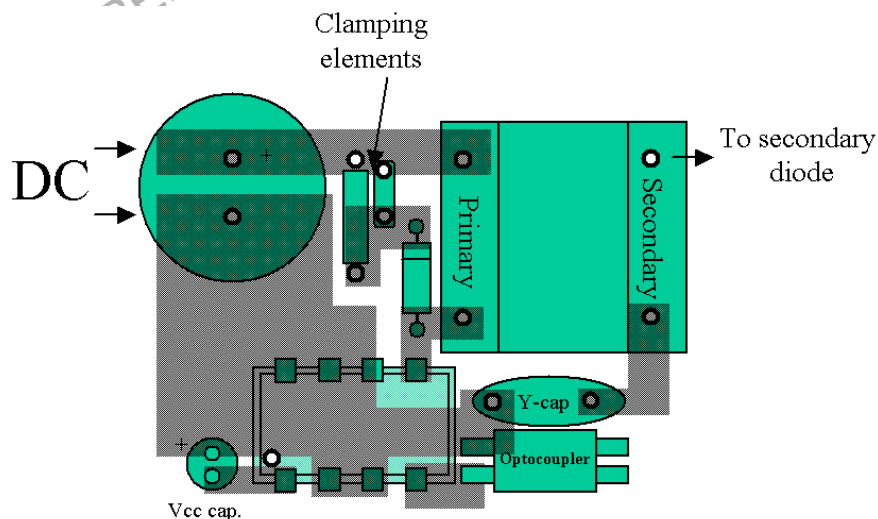

Figure 27. A Possible PCB Arrangement to Reduce the Thermal Resistance Junction-to-Ambient
1.0 W for an ambient of 50°C. The losses inherent to the MOSFET R_{DSon} can be evaluated using the following formula: $P_{mos} = \frac{1}{3} \cdot I_p^2 \cdot d \cdot R_{DSon}$ (eq. 13), where I_p is the worse case peak current (at the lowest line input), d is the converter operating duty-cycle and R_{DSon} , the MOSFET resistance for $T_J = 100^\circ\text{C}$. This formula is only valid for Discontinuous Conduction Mode (DCM) operation where the turn-on losses are null (the primary current is zero when you restart the MOSFET). Figure 27 gives a possible layout to help drop the thermal resistance. When measured on a 35 μm (1 oz) copper thickness PCB, we obtained a thermal resistance of 75°C/W .